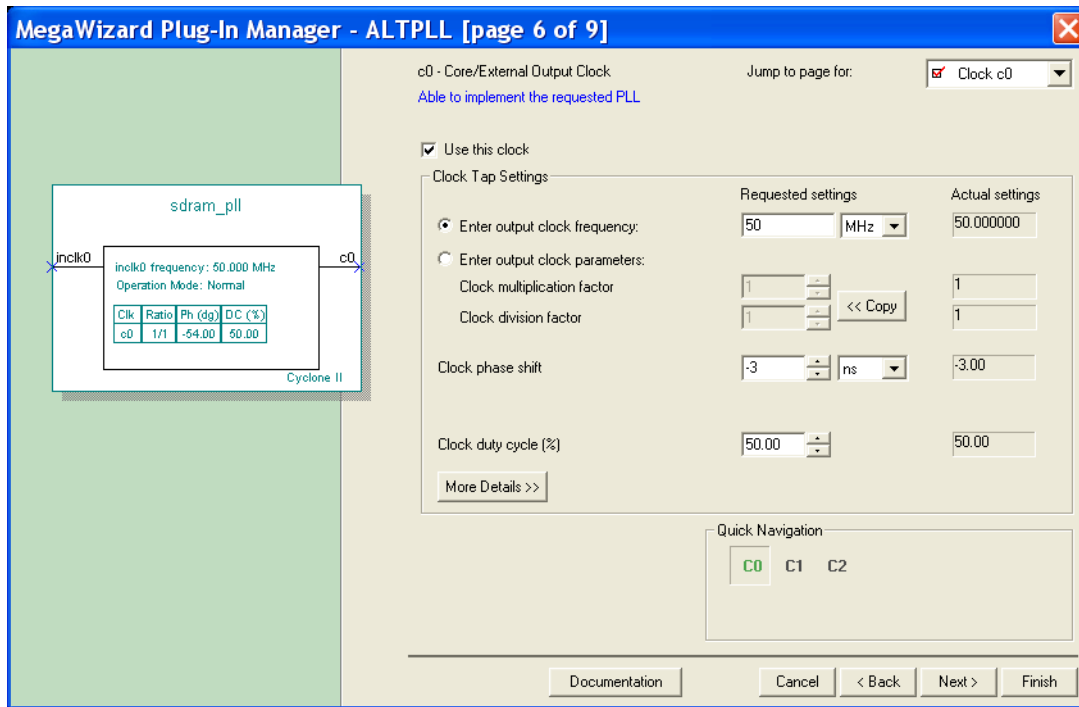

Figure 14. Specify the phase shift.
4. We are interested only in the input signal *inclk0* and the output signal *c0*. Remove the other two signals shown in the block diagram in the figure by de-selecting the optional input *areset* as well as the locked output, as indicated in the figure. Click Next on this page as well as on page 5, until you reach page 6 which is shown in Figure 14.